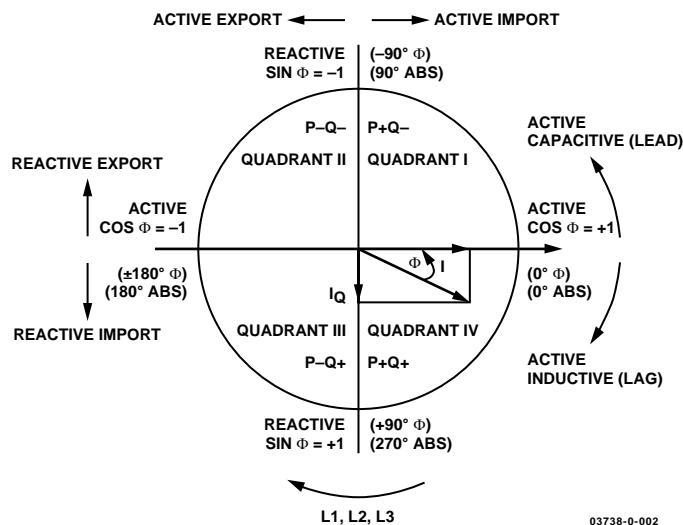

Figure 2. Quadrant Conventions
- Figure 2 gives the quadrant conventions used by the chipset.